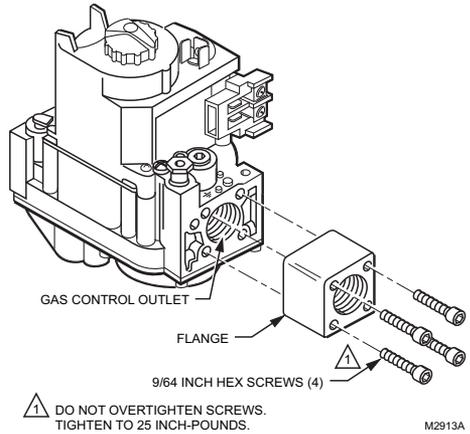

Fig. 1. Install flange to gas control
4. With O-ring facing valve, align the screw holes on the gas control with the holes in the flange. Insert and tighten the screws provided with the flange. See Fig. 1. Tighten the screws to 25 in. pounds of torque to provide a gas tight seal.